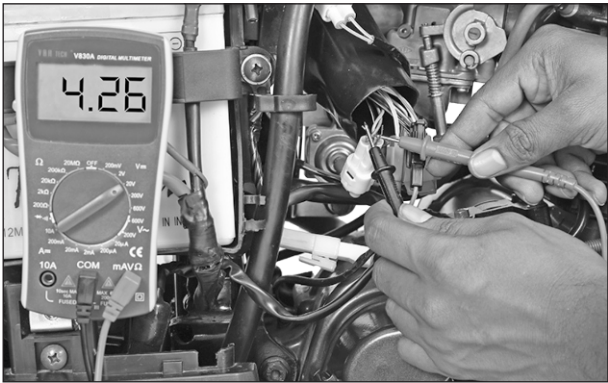

Fig. 5.38
- Then connect pocket tester's '+ve' lead to the white green wire (WG) and '-ve' lead to the black yellow wire (BY) of speed sensor coupler and measure the voltage. (Fig. 5.38)